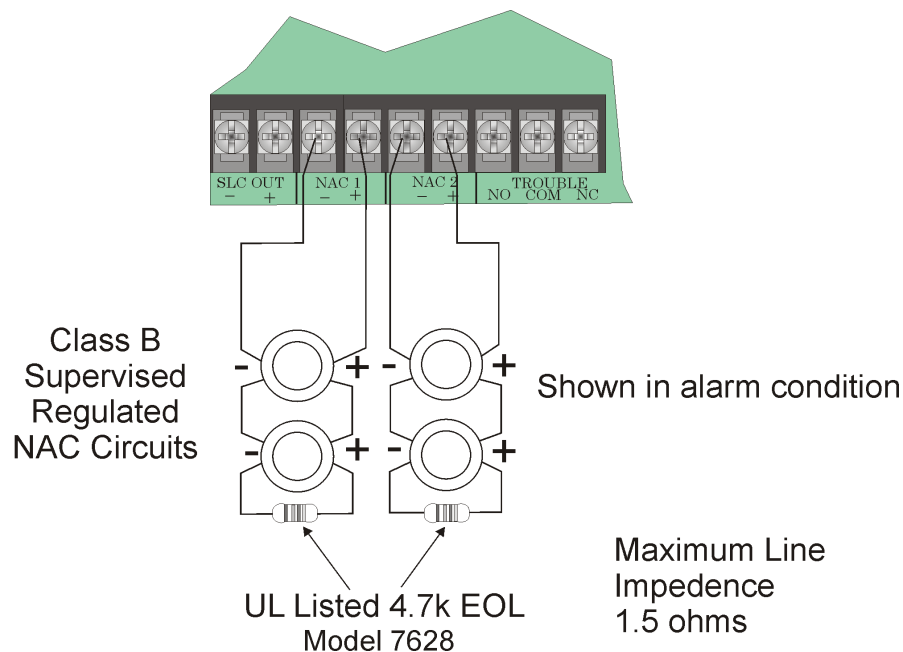

Figure 4-15 Class B Notification Appliance Circuit Wiring
1. Wire Class B Notification appliances as shown in Figure 4-15.